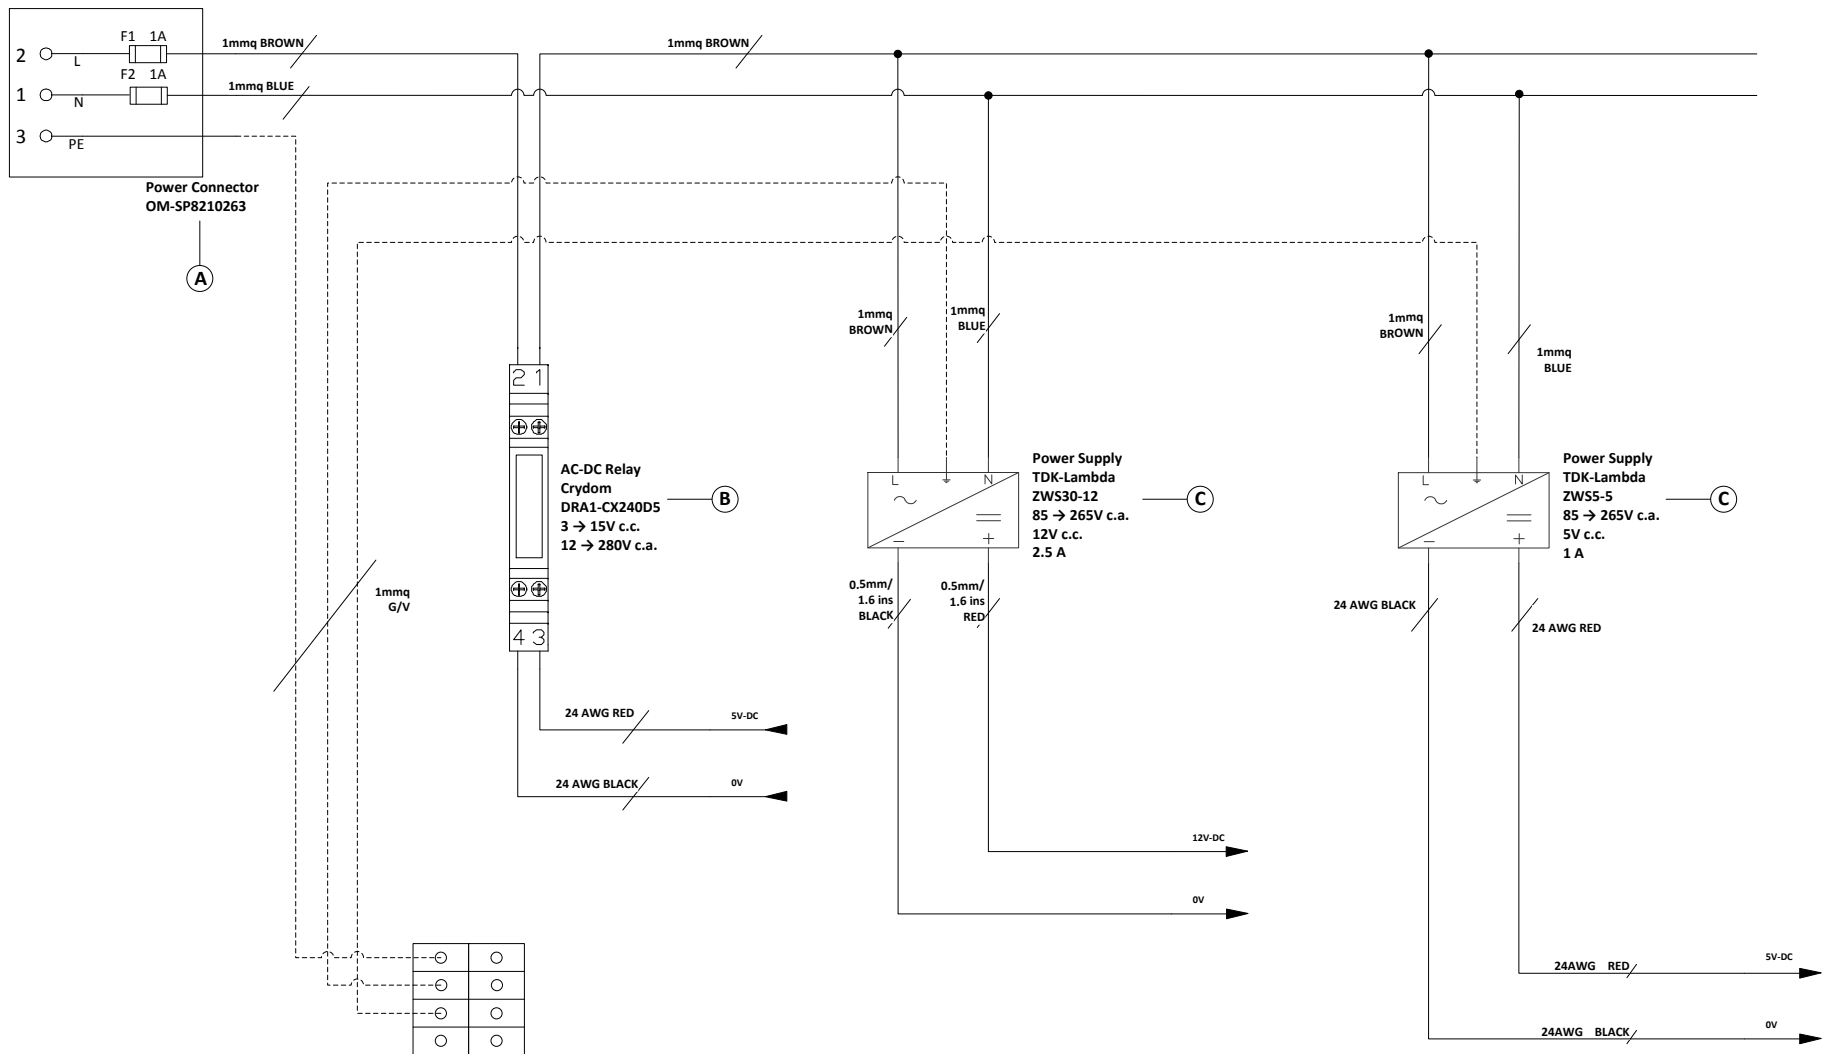

Figure 1 AC section wiring diagram
Figure 1 shows the alternating current (AC) section, designed to connect internal power supplies (see C in Figure 1) in parallel to low voltage power grid.